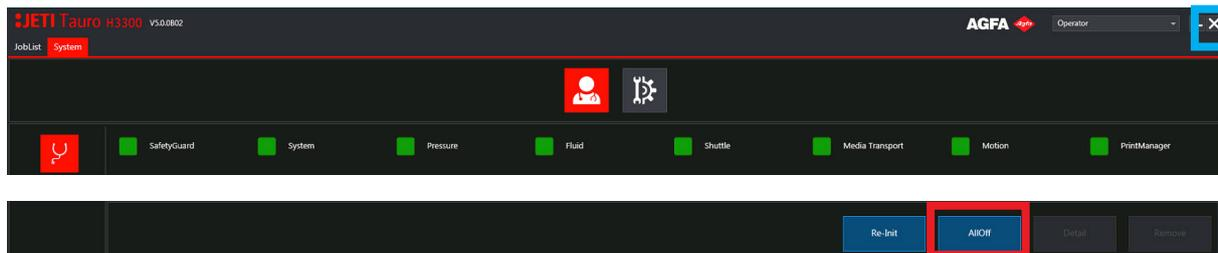
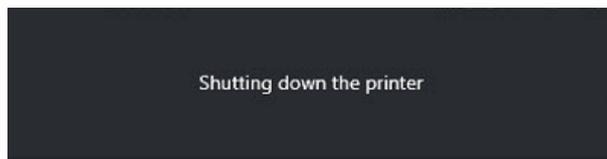

Fig.5-39: Turn All Modules Off
Fig.5-40: Shutting Down Warning
- Step 2: Turn off all the printer modules with the All Off button (outlined in red in Fig.5-39) in the bottom right of the Engine Message Overview window. This will automatically cool down the heads.
- Step 3 Close the GUI application from the close application cross in the top right of the screen (outlined in blue in Fig. 5-39). A Shutting Down the Printer Pop-up is displayed before the window closes. (see fig.5-40 shutting Down Warning)